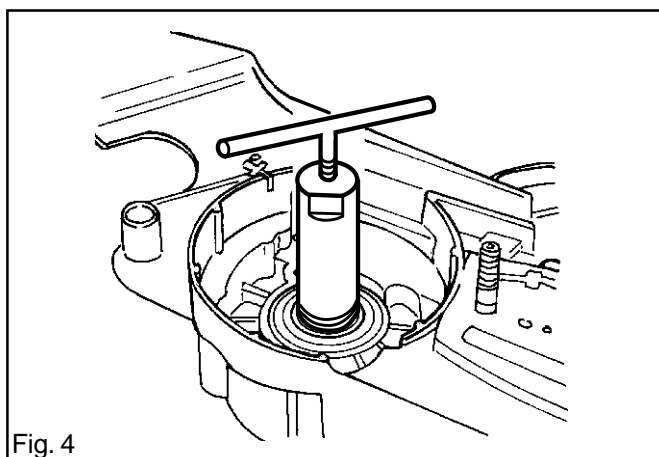

Fig. 4
3. If necessary, remove the seal on the flywheel side. Use tool 502 50 55-01. See fig. 4.